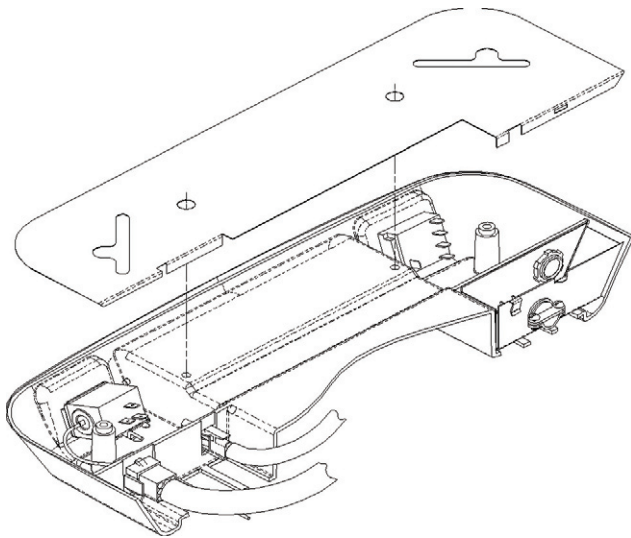

FIGURE 5
- G. Place the metal control box shield over the thermostat, switch and field wiring boxes. Make certain that all wires are pushed into the control boxes or laying in the wireway between the thermostat and switch boxes and will not be pinched by the control box shield. Control box shield is properly installed when the two holes in the shield are aligned with the two screw holes in the ceiling assembly chute (See Figure 5).
- I. The ceiling assembly shroud is curved to contour to a crowned ceiling. If installation is to a flat ceiling and gaps are present on the sides of the shroud, insert the four optional 3/4 inch (19 mm) screws (provided) through the mounting posts and secure them to the mounting frame above (See Figure 5, 6, & 7 for screw locations).